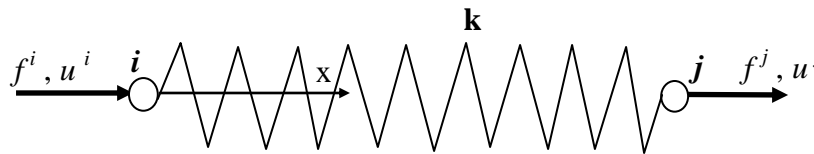

Figure 5
- (b). For linear conservative system, stiffness equation to be used in finite element analysis can be derived using Principle of Minimum Potential Energy (PMPE). Fig.5 shows an axially loaded spring where f^i, f^j : nodal forces at node i and node j, respectively, k : spring constant and u^i, u^j : nodal displacement of node i and node j, respectively. Derive the element stiffness matrix using PMPE.